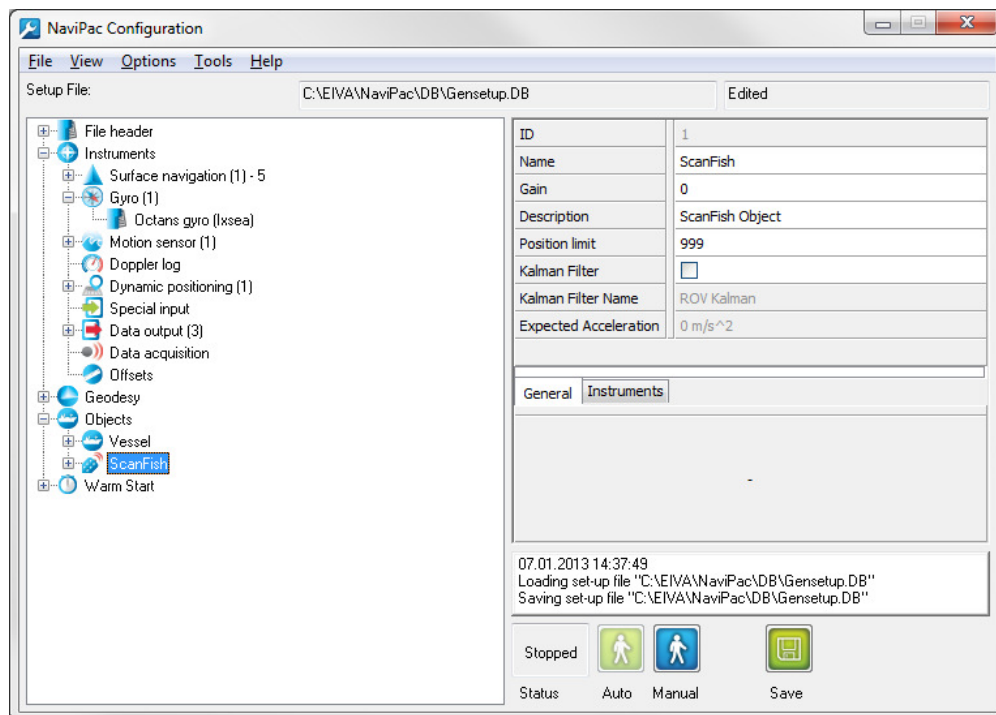

Figure 79 Definition of the ScanFish object
- **Location:** the **ScanFish** object (see Figure 79) must be selected, because this is the object to be positioned with the instrument.
Prior to actually configuring the **Generic Cable Counter** instrument, the **ScanFish** object must be configured, as shown in Figure 79.
Important comments regarding the main properties related to the **ScanFish** object shown in Figure 79 are as follows:
For the remaining properties, use the default settings, which are shown in Figure 79.